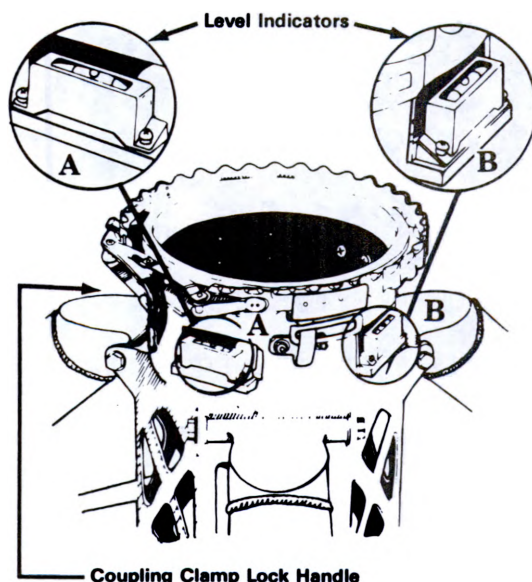

Figure 3. Level indicator with bubbles centered.
c. Check your level indicators (fig. 3). If the bubble is not between the indexing marks, you must adjust the legs. Do this by again pushing in on the detent stop lever to center one bubble and then the other. (Use the friction lock to lock the legs between detect positions if required while leveling.)
3. INSTALLING THE TRAVERSING UNIT (figs. 3 and 4).
- a. Open the coupling clamp lock handle on the tripod (fig. 3).